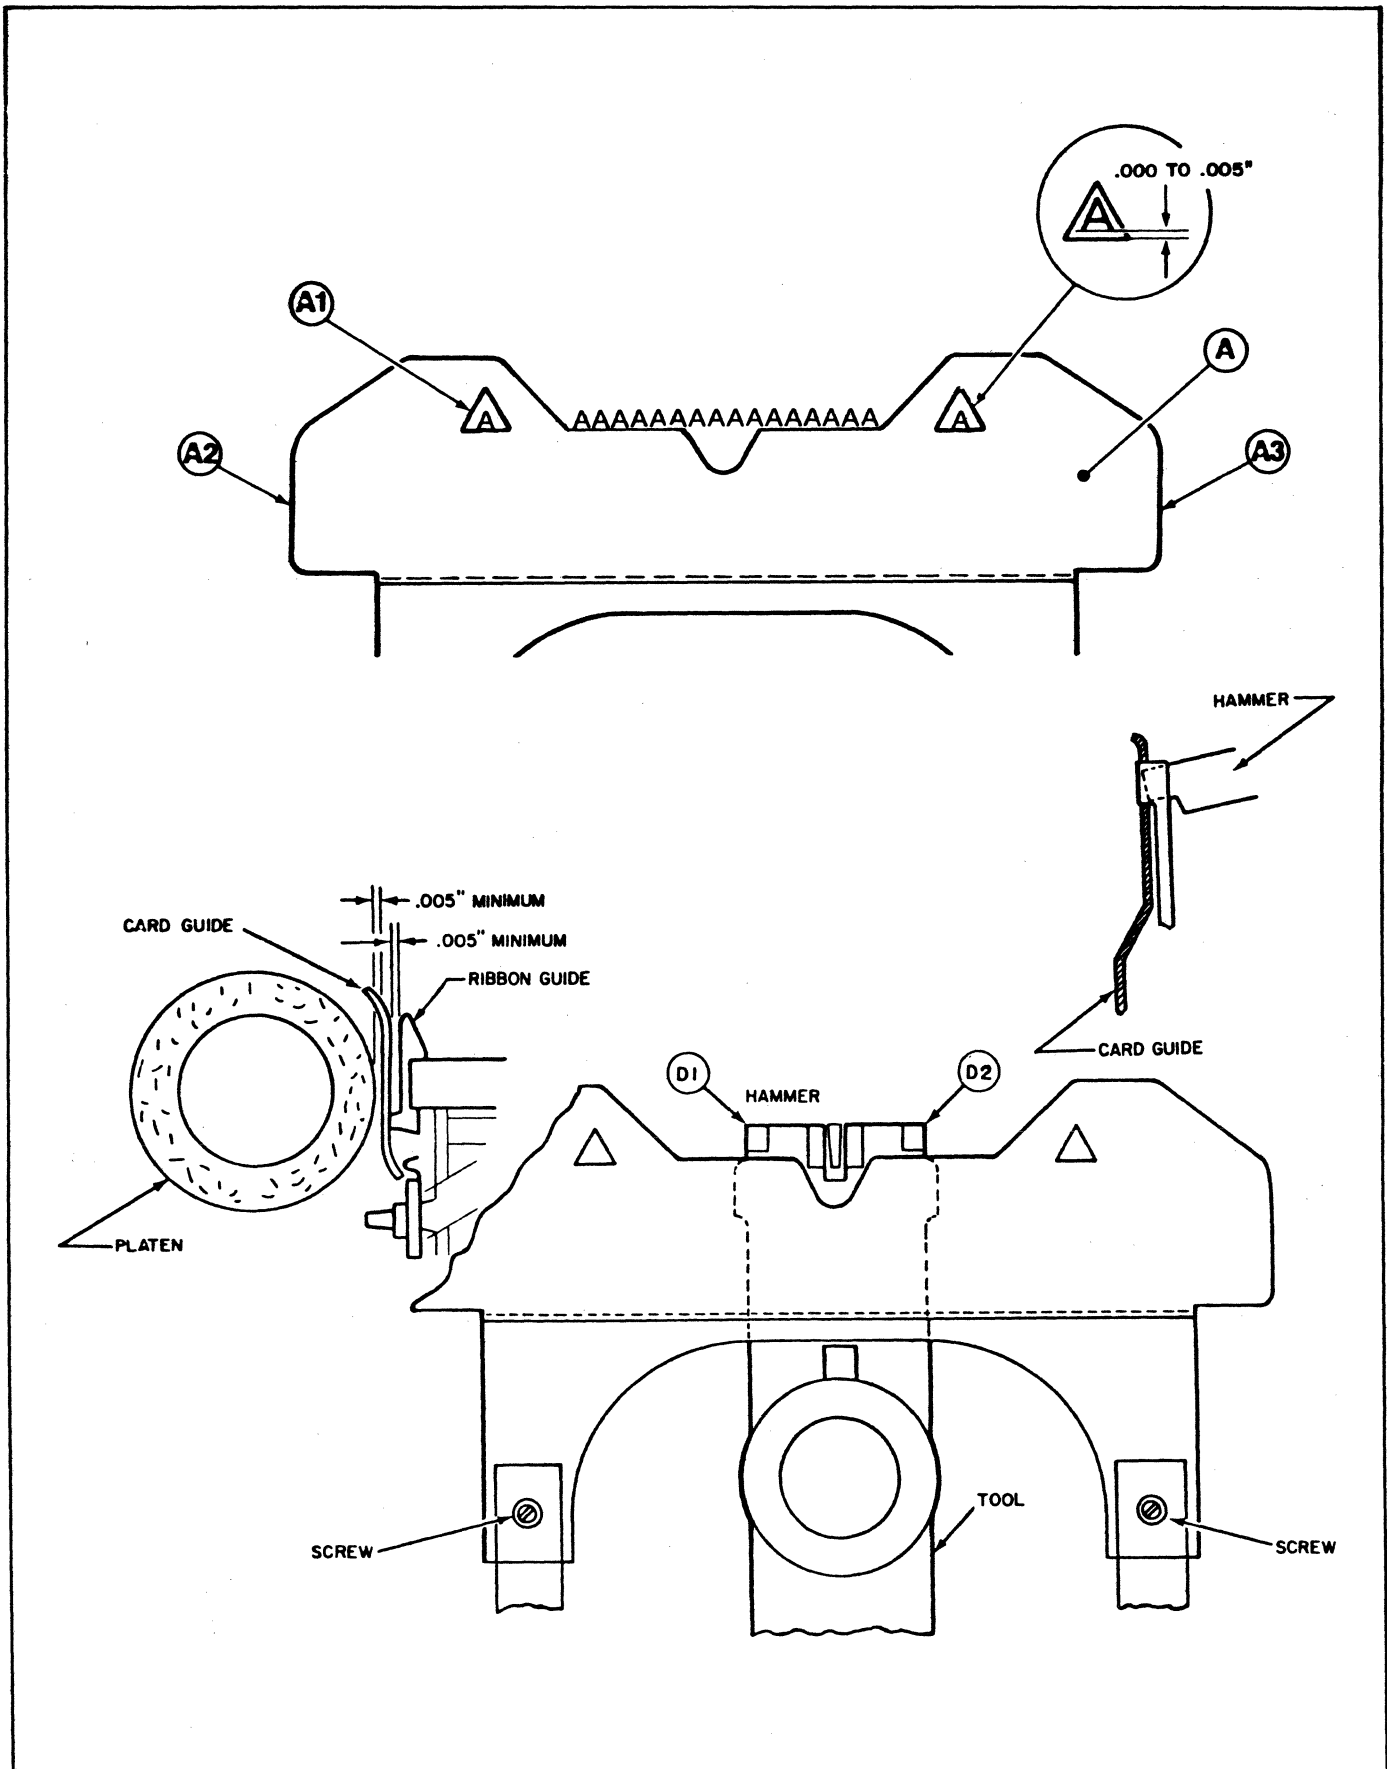

Figure 3-16. Card Guide Adjustments
3.4.1.4.5 Card Guide Height and Position. Refer to Figure 3-16. Proceed as follows: